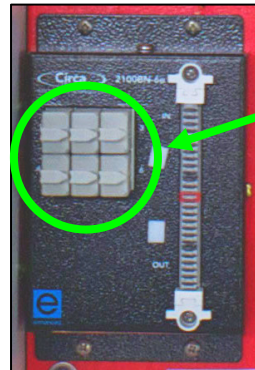

Fig. 15: TeleLite ZOI CFJ, Model #722200/15
**NOTE:** This Model # 722200/15 polymer/fiberglass Cabinet Assembly (See Figure 15) is especially equipped for placement of the CFJ inside the ZOI of a substation. The treated, plywood backboard is painted red and is equipped with a 6-pair punch block with plug-in grey continuity (pass-through) plug.